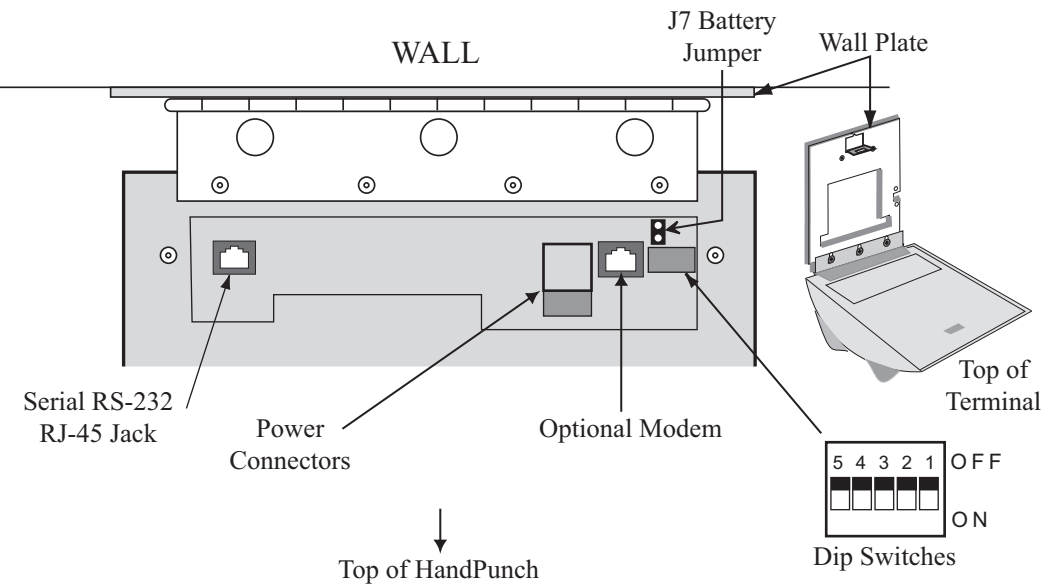

Figure 12-4: Wiring Connections and Dip Switches
Once the HandPunch is attached to the wall plate the wiring connections to the HandPunch can be made (see Figure 12-4).
**! NOTE** *If the HandPunch is equipped with the battery backup option, remove shunt J7 in front of the DIP switch array (see Figure 12-4 on page page 50) before proceeding. Replace shunt J7 after completion of the following steps.*